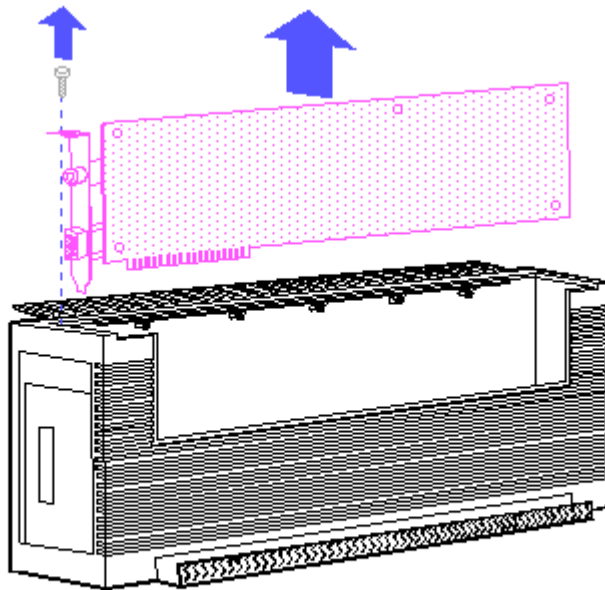

Figure 8-105. Removing the Optional Expansion Board Screws
9. Remove the retaining screw that secures each optional expansion board to the expansion unit. Gently lift the board(s) up and out of its connector on the circuit board (Figure 8-105).